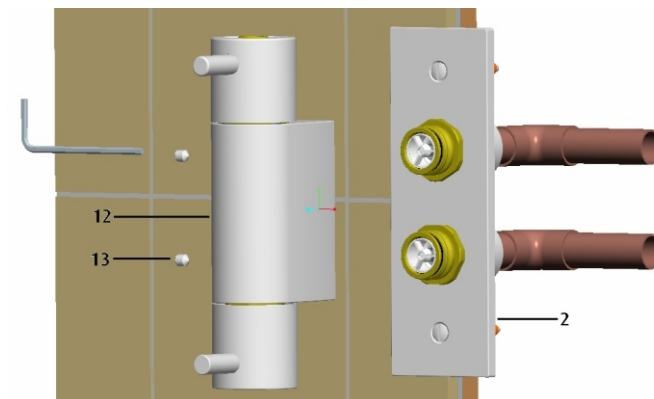

Fig. 6
4.2.1.7 Push shower body (12) onto back plate (outlet pointing up) and secure using grub screws (13) and hexagon key as shown in Fig.6, page 8.
4.2.2.7 Push shower body (12) onto back plate (outlet pointing up) and secure using grub screws (13) and hexagon key as shown in Fig. 6.